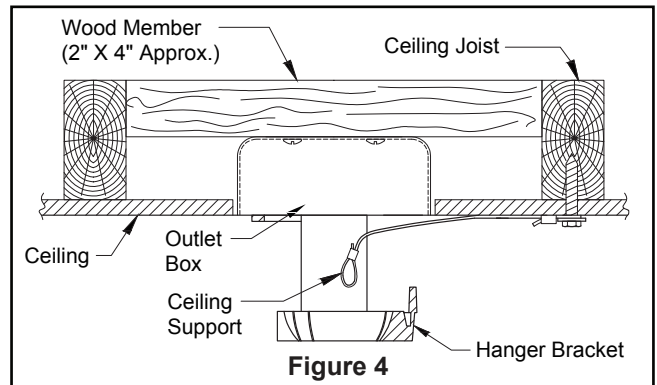

Figure 4
- 4. Loosen the two set screws and locking nuts in the downrod support of the motor assembly. Route the black, white, blue wires and safety cable through the downrod. (Figure 4)
- 4. Align the three big slots in the ceiling canopy to the three screws in the motor coupler. Firmly attach the canopy cover to the motor with the previously removed screws. (Figure 4)
2. Securely attach the hanger bracket to the outlet box using the outlet box screws and washers supplied with the fan. (Figure 4)
3. Using the 3/8" x 2" lag bolt and flat washer, attach safety cable to ceiling joist or wood structural member. The lag bolt will pass through the flat washer, safety cable loop, and into the building structure (Figure 4). You will first drill a 1/4" pilot hole into the building structure to prevent splitting or cracking.
**NOTE:** Ceiling support cable cannot be secured to outlet box only, it must be directly secured to ceiling joist or structural member using the 3/8" x 2" lag bolt and flat washer. (Figure 4)